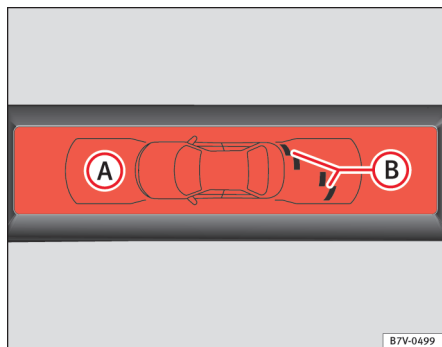

Fig. 143 On-screen OPS display: (A) an obstacle has been detected in the segment. (B) zone recorded behind the vehicle.
The zone in which obstacles are recognised runs to a distance of around 120 cm from the front of the vehicle and up to 60 cm to the side → fig. 143 (B). Behind the vehicle, the zone analysed reaches a distance of up to 160 cm and around 60 cm to the sides → fig. 142 (C).
The image displayed represents the supervised zones in several segments. As the vehicle moves closer to an obstacle, the segment moves closer to the vehicle displayed (B) and → fig. 143 (A). When the penultimate segment is displayed, this means that the vehicle has reached the collision zone. **Stop the vehicle!** ▶